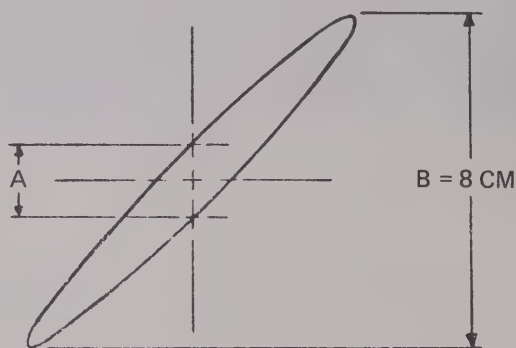

Figure 3-3. Phase Shift Measurements
2. Center the trace horizontally and adjust the Y controls for 8 centimeters of vertical deflection. The pattern obtained should be similar to Figure 3-3.
To obtain full scale vertical deflection of 8 centimeters, it may be necessary to temporarily reduce the horizontal amplitude of the display. To accomplish this, set the X VOLTS/CM switch one step counterclockwise from its initial setting. Adjust the display for 8 centimeters of vertical deflection. Reset X VOLTS/CM switch to its original setting; recenter the display, and read dimension A in Figure 3-3.